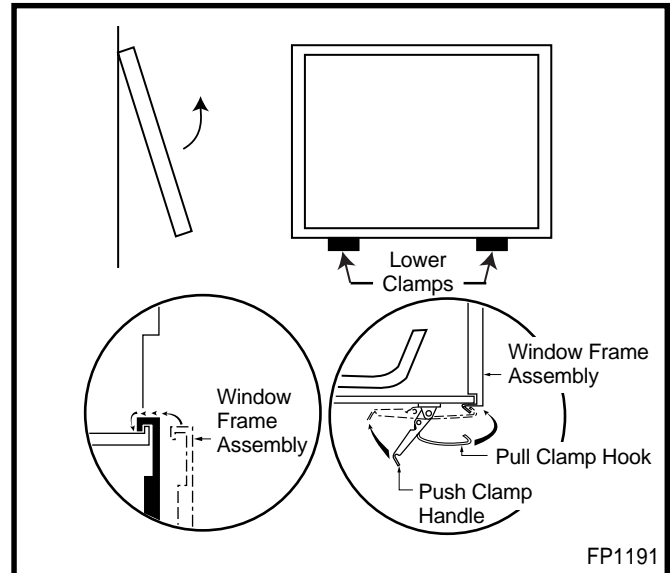

Fig. 39 Window frame assembly removal.
5. Release the two clamps along lower edge of the frame by pulling down on clamp handles (Fig. 39).